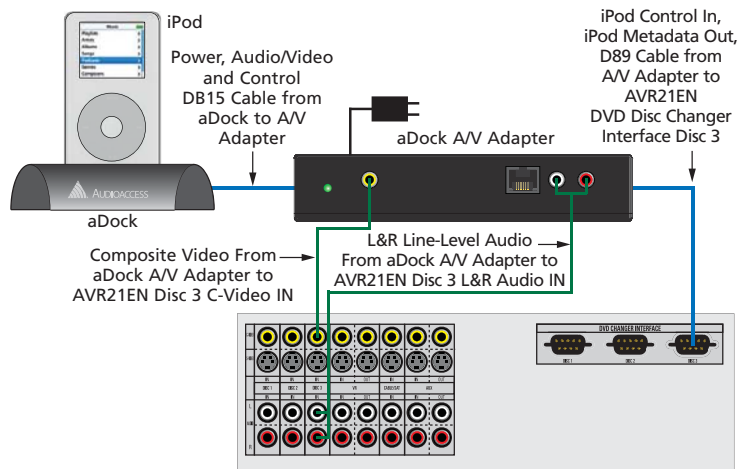

Figure 17
1. Connect the DB15 cable that is attached to the aDock to the aDock A/V Adapter, as shown in **Figure 17**. This will provide power and control to the iPod and send A/V signals and metadata to the AVR21EN.
2. Connect a DB9 cable from the **aDock A/V Adapter** to the **Disc 3 DVD Changer Interface Terminal** on the AVR21EN rear-panel, as shown in **Figure 17**. This will provide control to the iPod and send A/V signals and metadata to the AVR21EN.